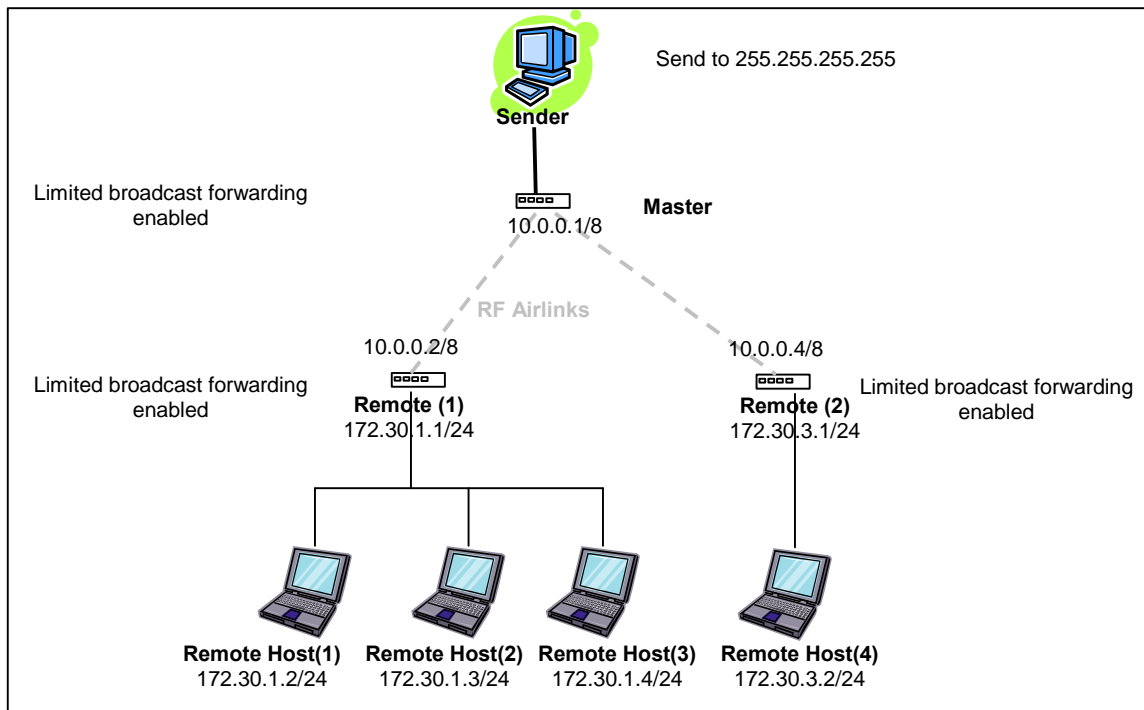

Figure 56 - Example-Limited broadcast forwarding enabled
In the example Figure 56, limited broadcast forwarding is enabled on the **Master** unit and on all **Remote** units. If **Sender** wants to reach **Remote Host (1)**, **Remote Host (2)**, **Remote Host (3)**, and **Remote Host (4)** with a single packet, he can send to destination address 255.255.255.255.